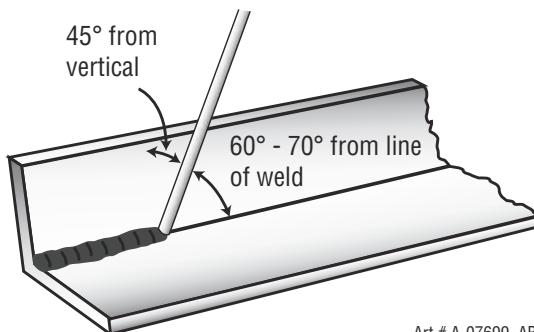
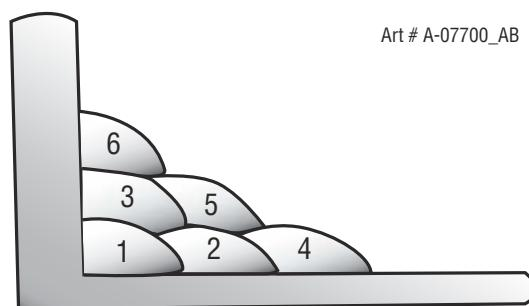

Figure 6-17: Electrode position for HV fillet weld
Figure 6-18: Multi-runs in HV fillet weld
A piece of angle iron is a suitable specimen with which to begin, or two lengths of strip steel may be tacked together at right angles. Using a 3.2mm Ferrocraft 21 electrode at 100 amps, position angle iron with one leg horizontal and the other vertical. This is known as a horizontal-vertical (HV) fillet. Strike the arc and immediately bring the electrode to a position perpendicular to the line of the fillet and about 45° from the vertical. Some electrodes require to be sloped about 20° away from the perpendicular position to prevent slag from running ahead of the weld. Refer to Figure 6-17. Do not attempt to build up much larger than 6.4mm width with a 3.2mm electrode, otherwise the weld metal tends to sag towards the base, and undercut forms on the vertical leg. Multi-runs can be made as shown in Figure 6-18. Weaving in HV fillet welds is undesirable.